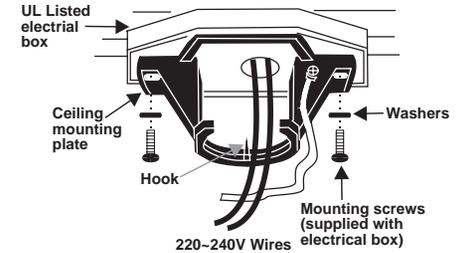

Figure 5
Step 1. Pass the 220-240 volt supply wires through the center hole in the ceiling hanger bracket as shown in Fig. 5.
2. Pass the 220~240 volt supply wires through the center hole in the ceiling hanger bracket as shown in Fig. 5.